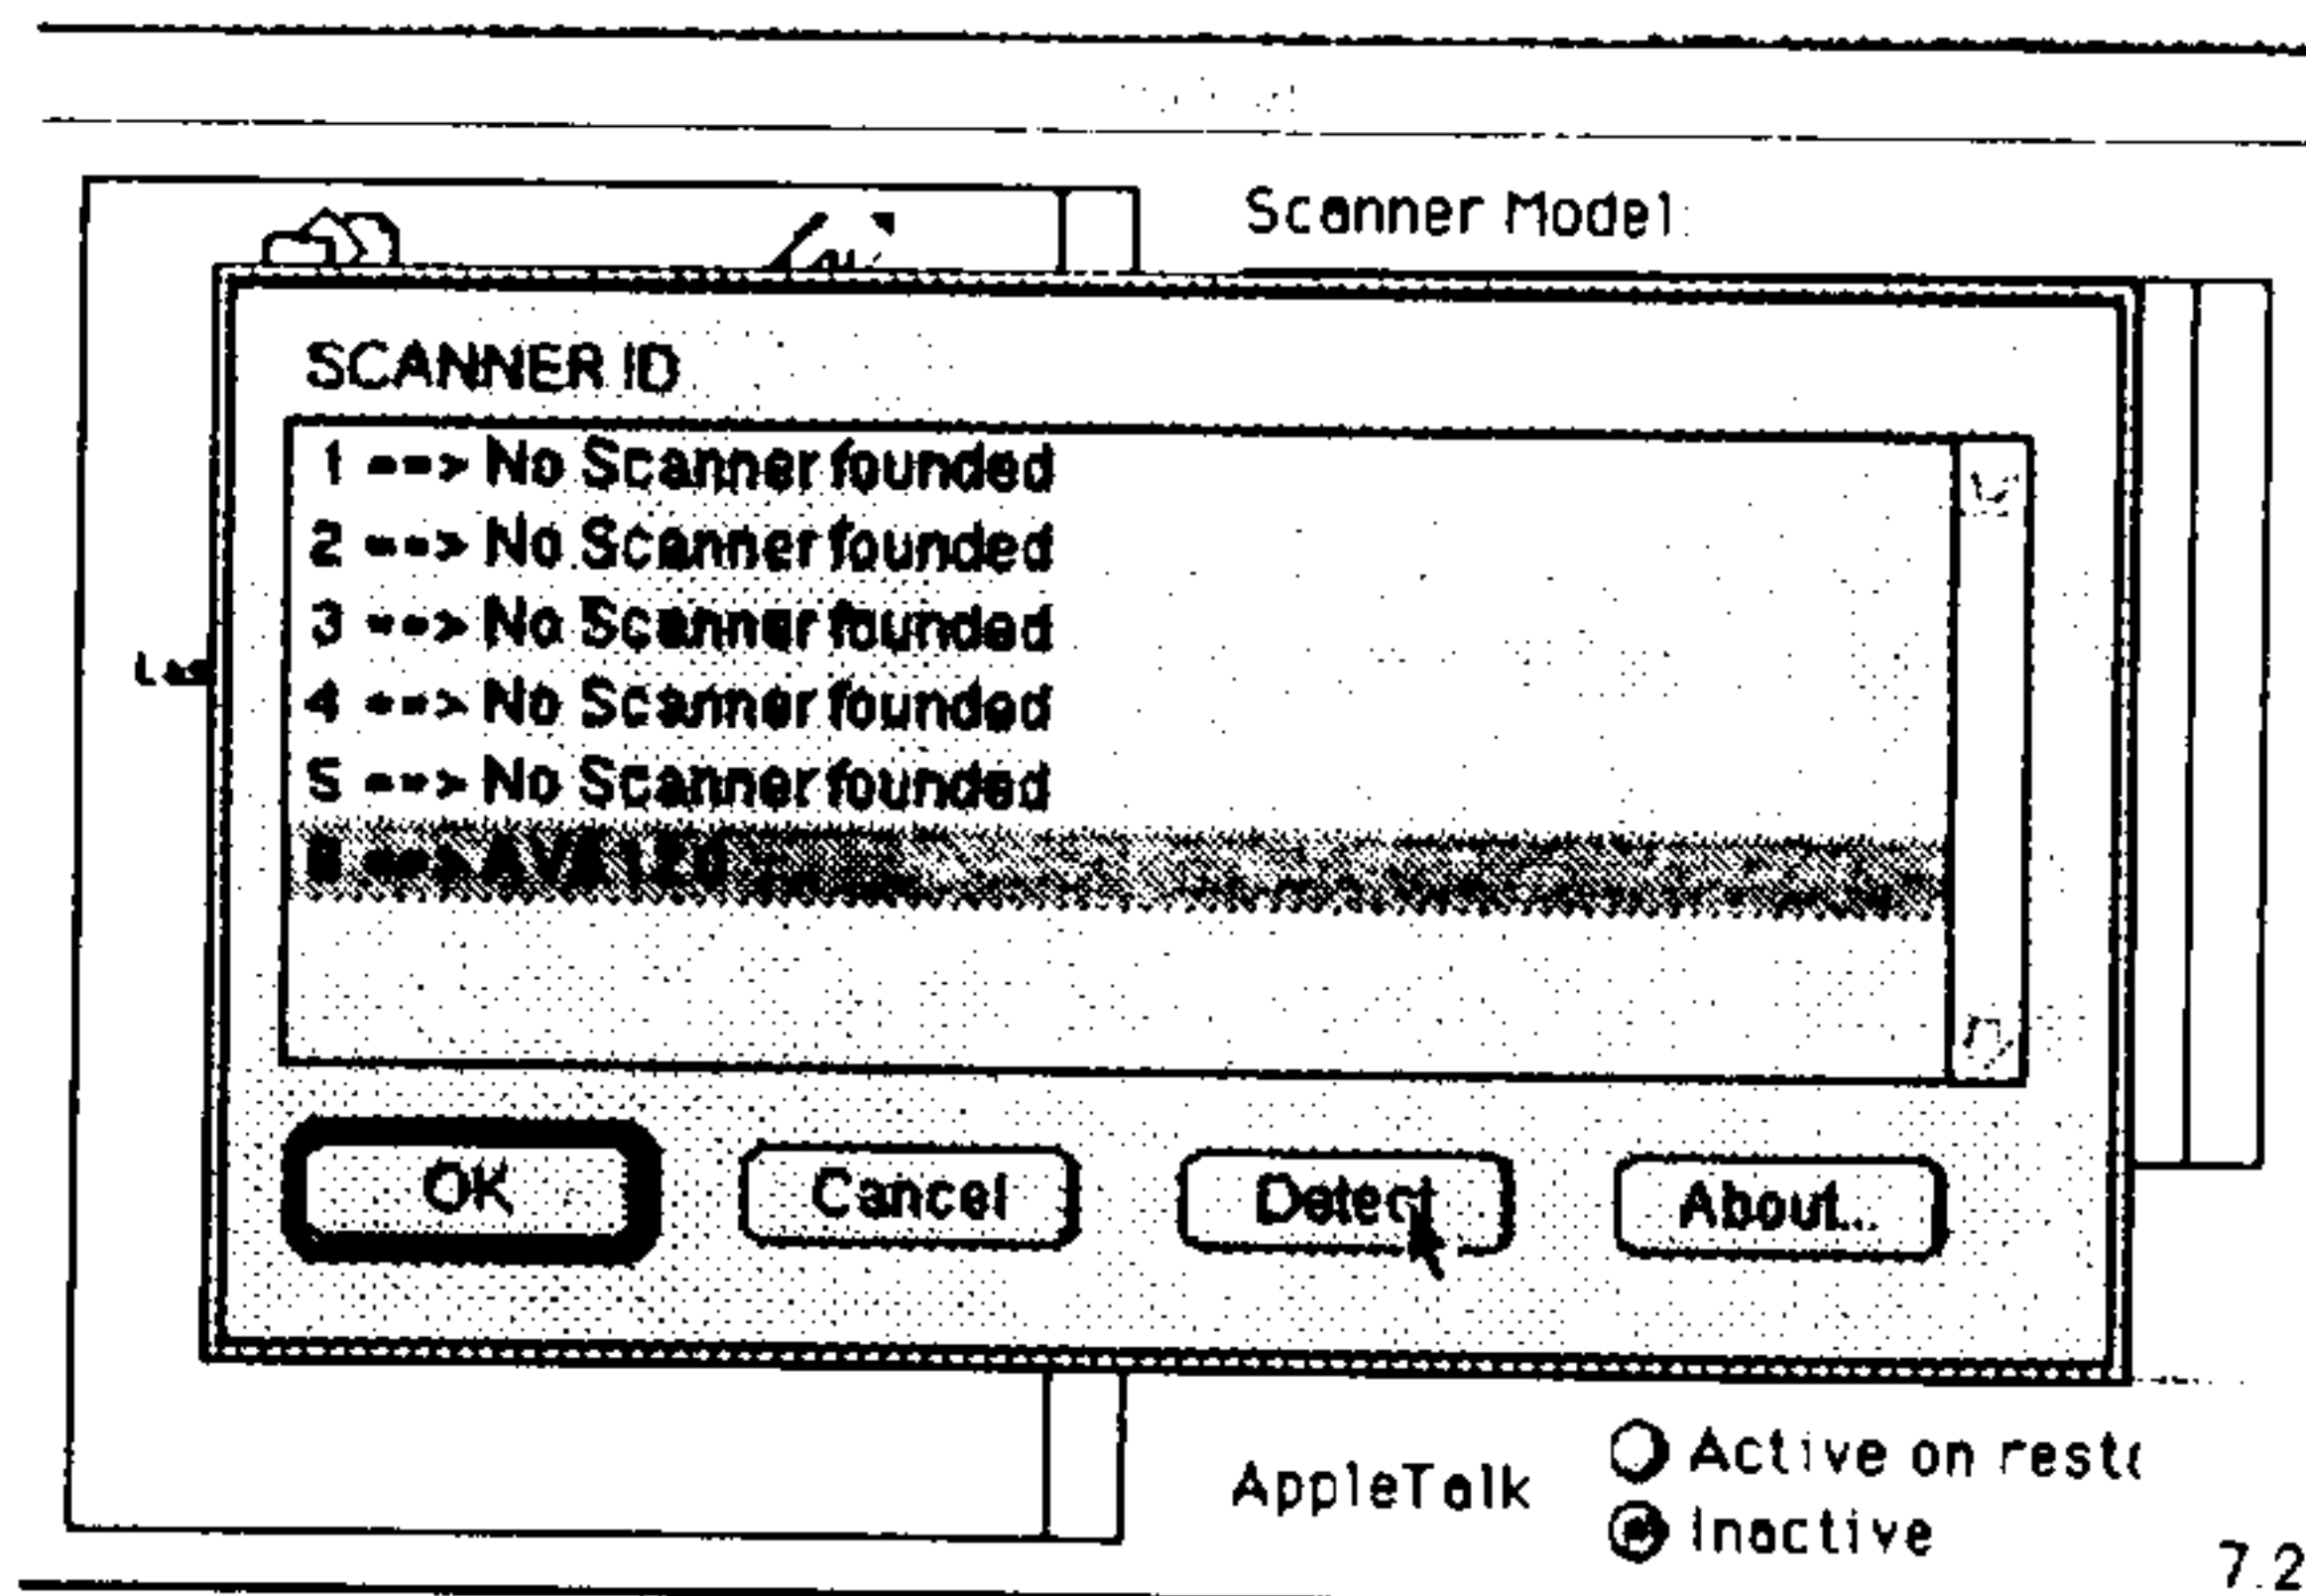

Fig. 4.9
6. Then click "Set SCSI ID" button, you will find the dialog box which will let you select the scanner ID of your scanner use (See Fig. 4.9). If you do not know the exact SCSI ID, click "Detect" button to do automatically detection.